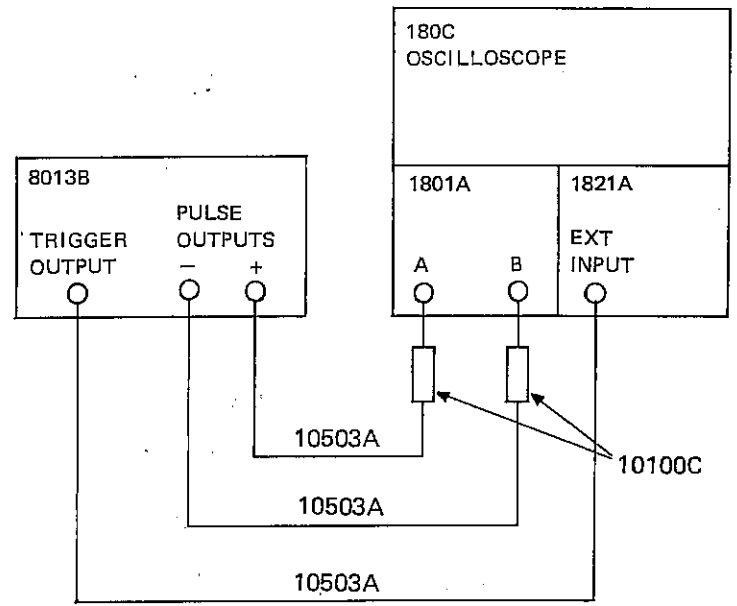

Figure 3-4. Initial control settings and test equipment
3-14 In this mode the 8013B requires no external signal to produce an output signal. Rate, delay, width, amplitudes etc. are all adjustable from the front panel controls. The initial control settings (also shown in Figure 3-1) are given to assist someone unfamiliar with the operation of the 8013B. The positive and negative pulse outputs (17) and (18) and the TRIGGER OUTPUT (21) should be connected to an oscilloscope using a 50 ohm system (as shown in Figure 3-4). The oscilloscope (an HP 180C mainframe with 1801A and 1821A plug-ins) should be set with the sweep time at  $20 \mu\text{s}/\text{div}$  and the sensitivity at  $2\text{V}/\text{div}$ .
- PULSE PERIOD ② .1m-10m
- VERNIER ③ CCW
- PULSE DOUBLE/NORM ④ NORM
- PULSE DELAY ⑤ 1μ-.1m
- VERNIER ⑥ CCW
- PULSE WIDTH ⑦ 1μ-.1m
- VERNIER ⑧ Center
- AMPLITUDE ⑨ 2.0-5.0
- VERNIER ⑩ CW
- OFFSET VERNIER ⑪ Center